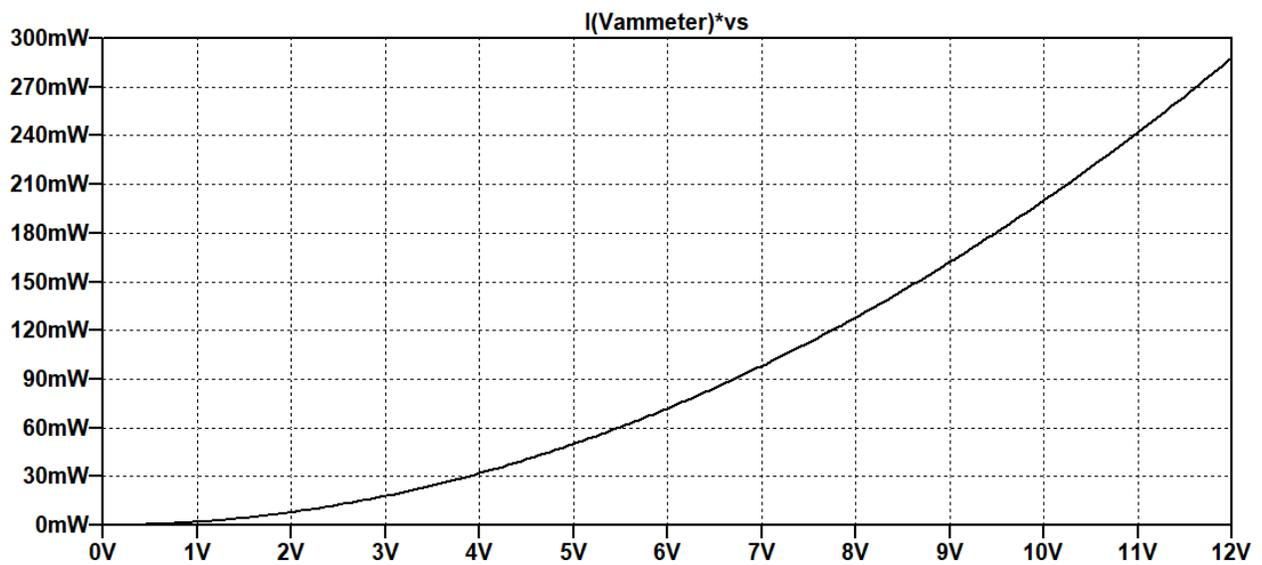

Figure 2. Power of  $R_L=500\Omega$  as a function of  $V_s$  in the circuit of Figure 1
Your plot will have the same shape as Figure 2
**(Figure 2 is for RL=500 $\Omega$ ; your value of RL is 1k $\Omega$ ).**